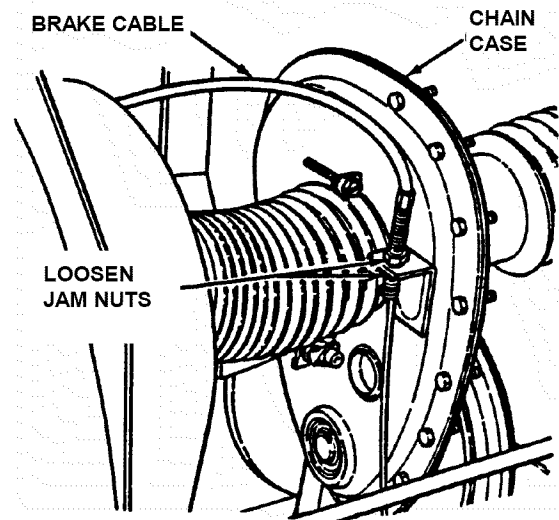

FIGURE 4.10
6. If measurement is not  $3/4$ ", loosen the two jam-nuts. See Figure 4.10. Hold the clutch/brake cable to the chain case bracket.